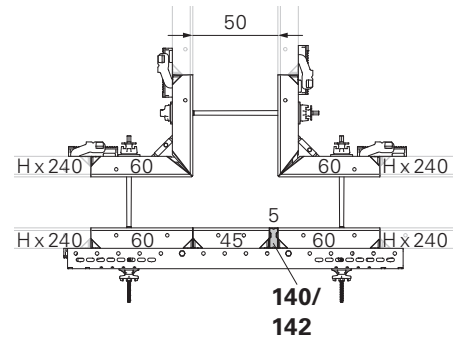

Fig. D3.10
- Wall thickness 50: Fig. D3.10 + D3.09a/c + D3.09b/d